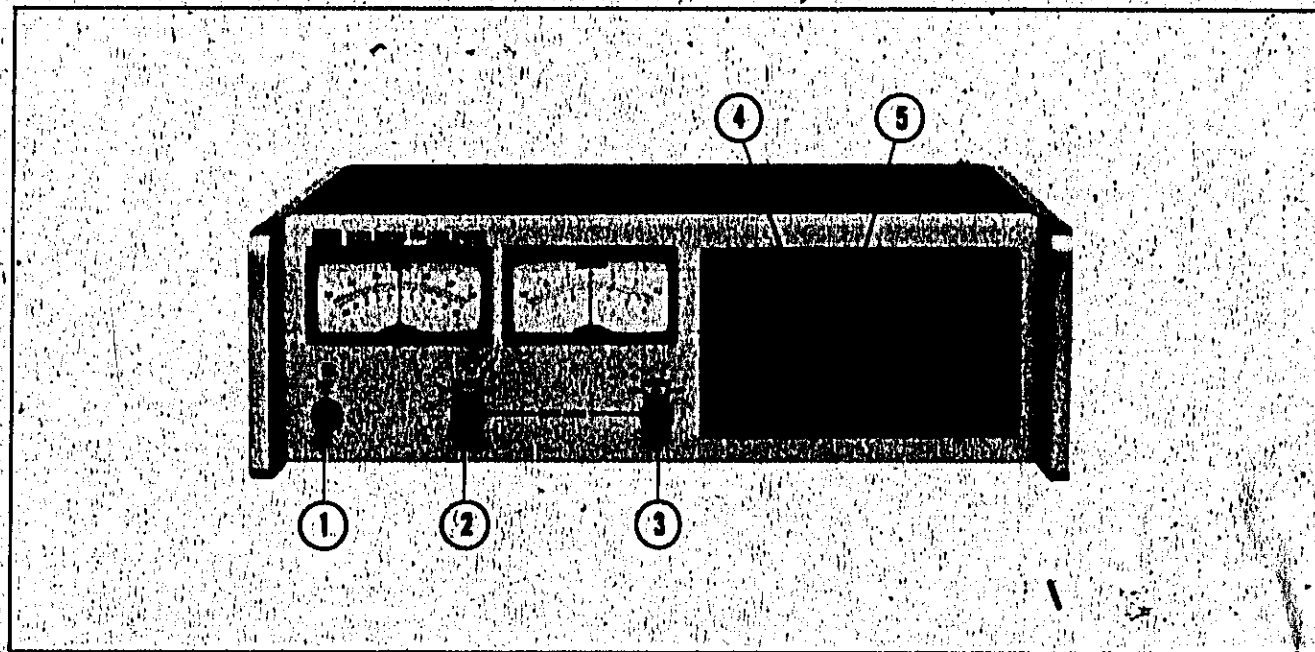

Figure 3-2. Operating Controls and Indicators
3-4 To turn on the unit, set the LINE switch (item ① in Figure 3-2) to ON. The pilot light directly above the LINE switch should light. Fuse 1 (2A at 115Vac or 1A at 230Vac) protects the main power supply.
3-18 With the STORAGE switch (4) (Figure 3-2) in the STORE position, the voltage, sign, range, and current latch program data are stored when the gate is received from the computer. In the DISABLE position, Indicator DS1 (5) lights and the data are processed as soon as they are received.